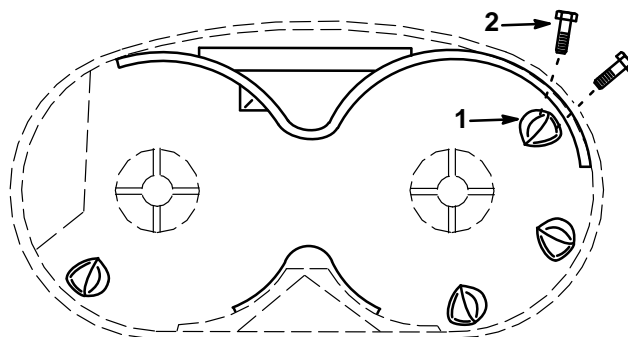

Figure 3
1. Install kicker plates with holes toward top of deck using #8 x  $\frac{5}{8}$ " screws (Fig. 3). Screws are installed from top of deck. Long slope on kickers must be positioned in a clockwise direction as viewed in Figure 3.